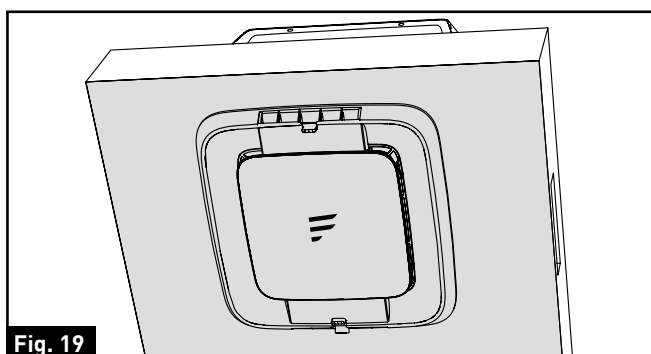

Fig. 19
21. Your new rooftop air conditioner has now been fully installed in the RV roof. (Fig. 19)